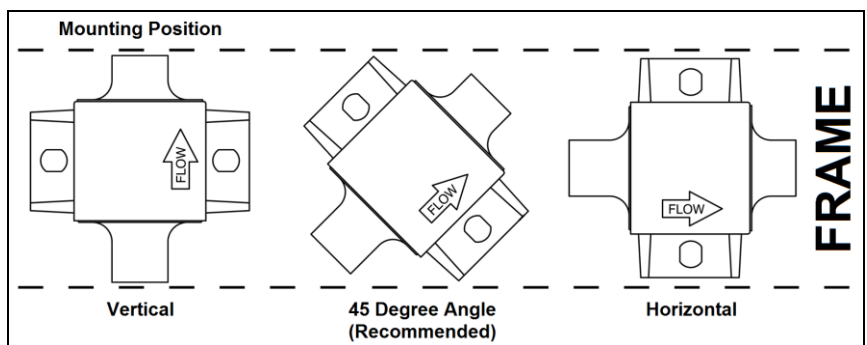

Figure 2
2. Position the pump in an upward direction at 45° away from the tank. Mark and drill (2) 7/32" holes into the frame aligned to the mounting bracket (Figure 2).